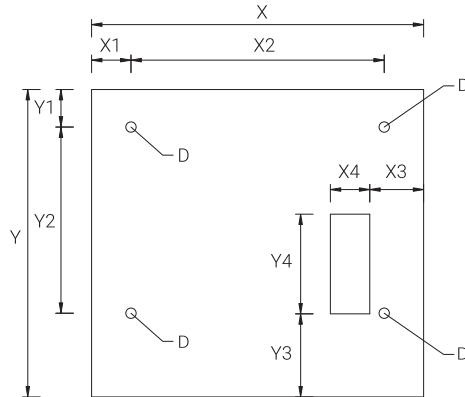

Figure 5-4 DC 180 Drill Holes
- Drill 4 holes with 110 mm depth at the positions as in Figure 5-4. Alternatively, use the drilling template attached to the charger.
- Figure 5-4, the D hole size suitable to fit M16 expansion bolt.